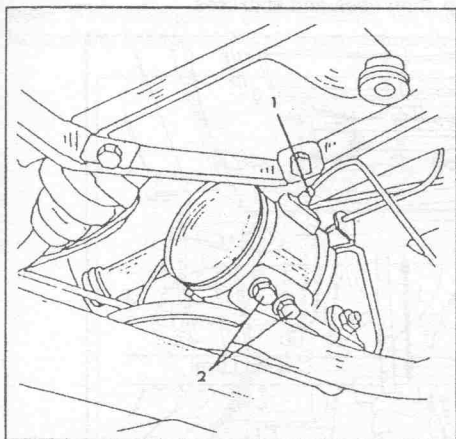

Fig. 6.5. — Details for the removal and installation of a front height corrector.
Refer to Figs. 6.5 and 6.6, showing the shape of the height corrector. Disconnect the feed pipe (1) to the front suspension as well as the high pressure feed pipe (4).
Remove the two securing bolts (2) in Fig. 6.5 and swivel the height corrector so that the rubber exhaust pipe (5) and the overflow return pipe (3) can be removed from the height corrector. Withdraw the corrector from its mounting position.